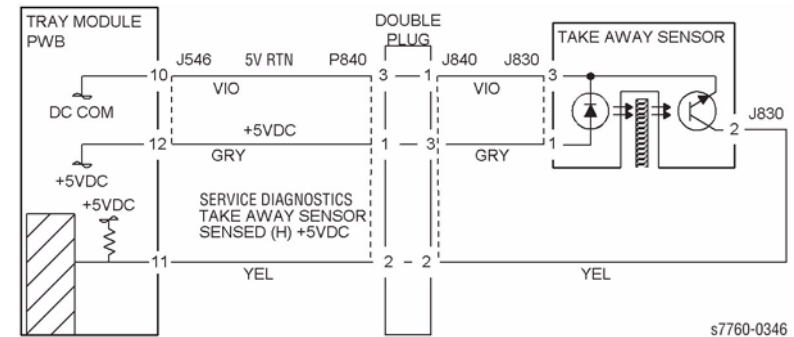
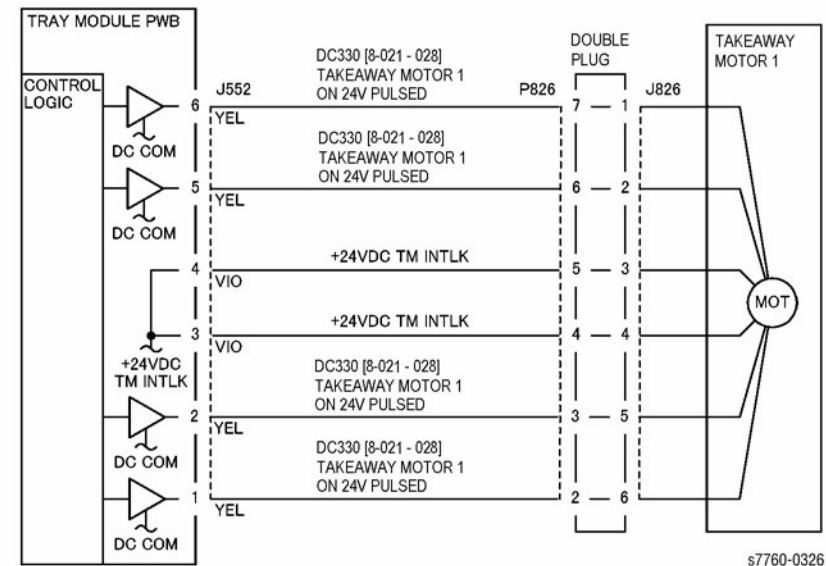

Figure 1 008-150 Takeaway Sensor
Figure 2 008-150 Takeaway Motor 1
- Ensure that the connectors shown in the circuit diagrams (Figure 1, Figure 2) are securely connected and that the wires are not damaged.